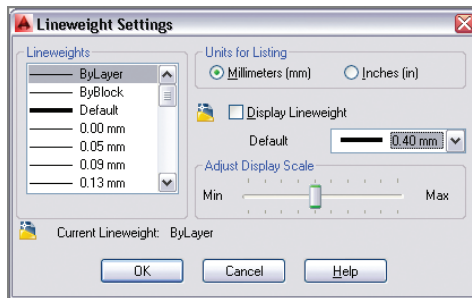

FIGURE 3.3 Adjusting the default lineweight settings
- Right-click the Show/Hide Lineweight icon, and choose Settings from the context menu. Open the Default drop-down list, select 0.016" (or 0.40 mm) (see Figure 3.3), and click OK. The line you drew in step 4 is displayed thicker so that it's more visible against the grid.